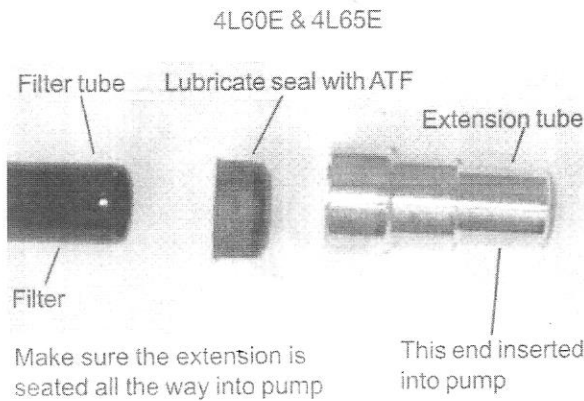

Figure 3
STEP 4. For the 4L60E & 4L65E transmission, install the supplied seal in the extension tube provided in the kit (See figure 3). Lubricate the seal with transmission fluid and place the extension tube onto the filter. Install the assembly back into the oil pump bore being careful not to damage the seal in the pump.